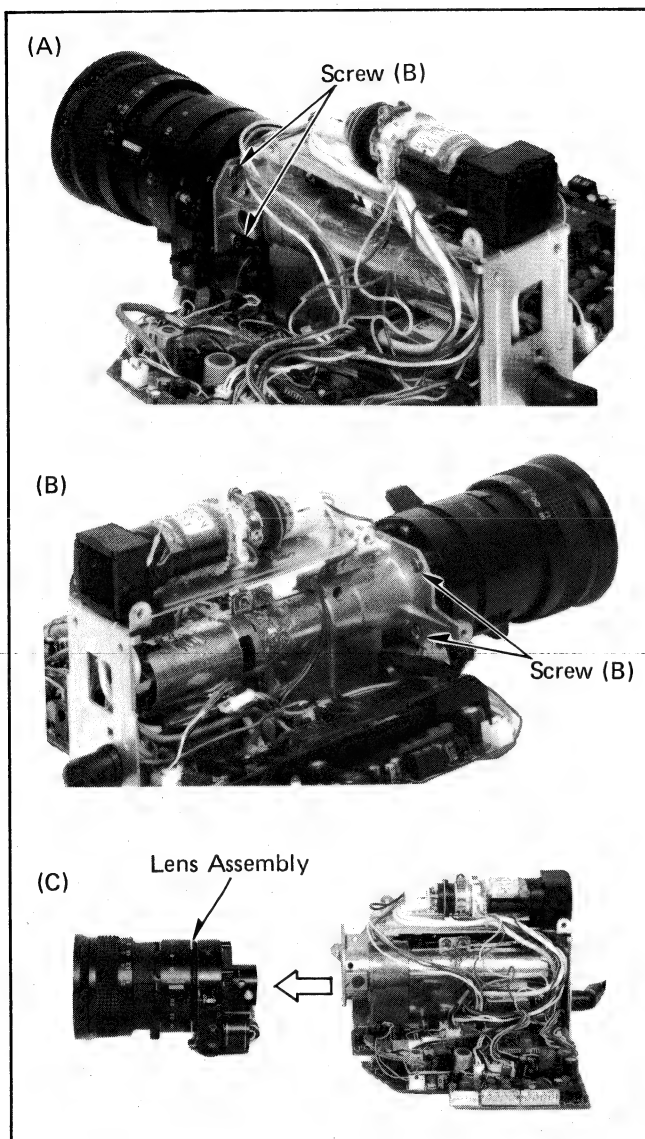

Fig. 15
- 4-3. Unscrew 4 screws (B) and remove the zoom lens (see Fig. 15-A/B/C).